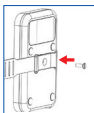

Figure 3
4. Screw in mounting bracket with provided screwdriver (*figure 3*).